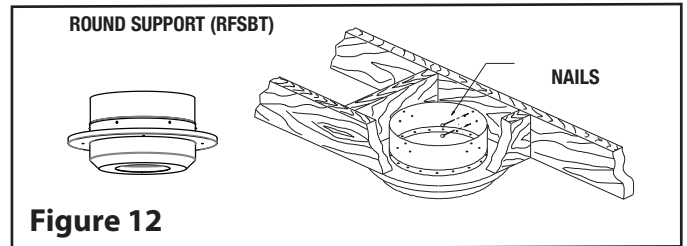

Figure 12
Step 3. From below push the Round Support into the framed opening. Nail or screw the support to the framed box using (12) 3" spiral nails or #8 x 1 1/2" wood screws (see Figure 12). Refer to Figures 5 and 13 for visual.